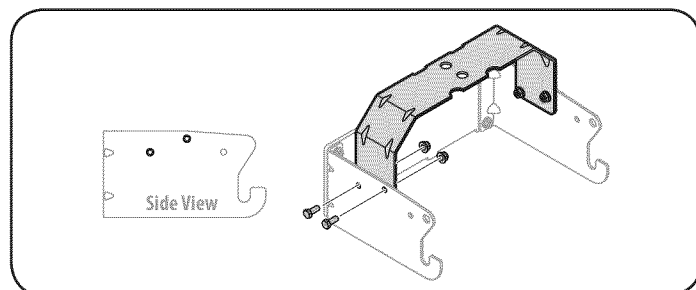

Figure 5
- **Para Modelos 247.28980, 247.28672, 247.28888, 247.28880:** Vea la Fig. 5.